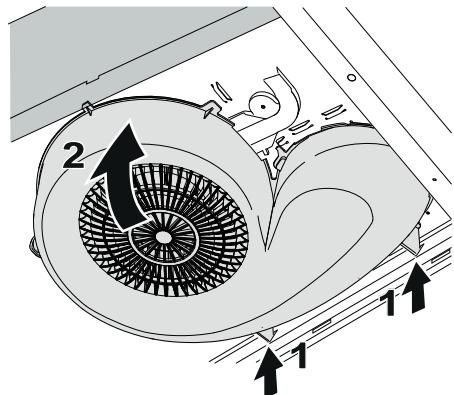

Fig. 7
Refit the fan housing by inserting the supports in the rear of the fan (1). Bend up the fan housing (2). Fig. 7